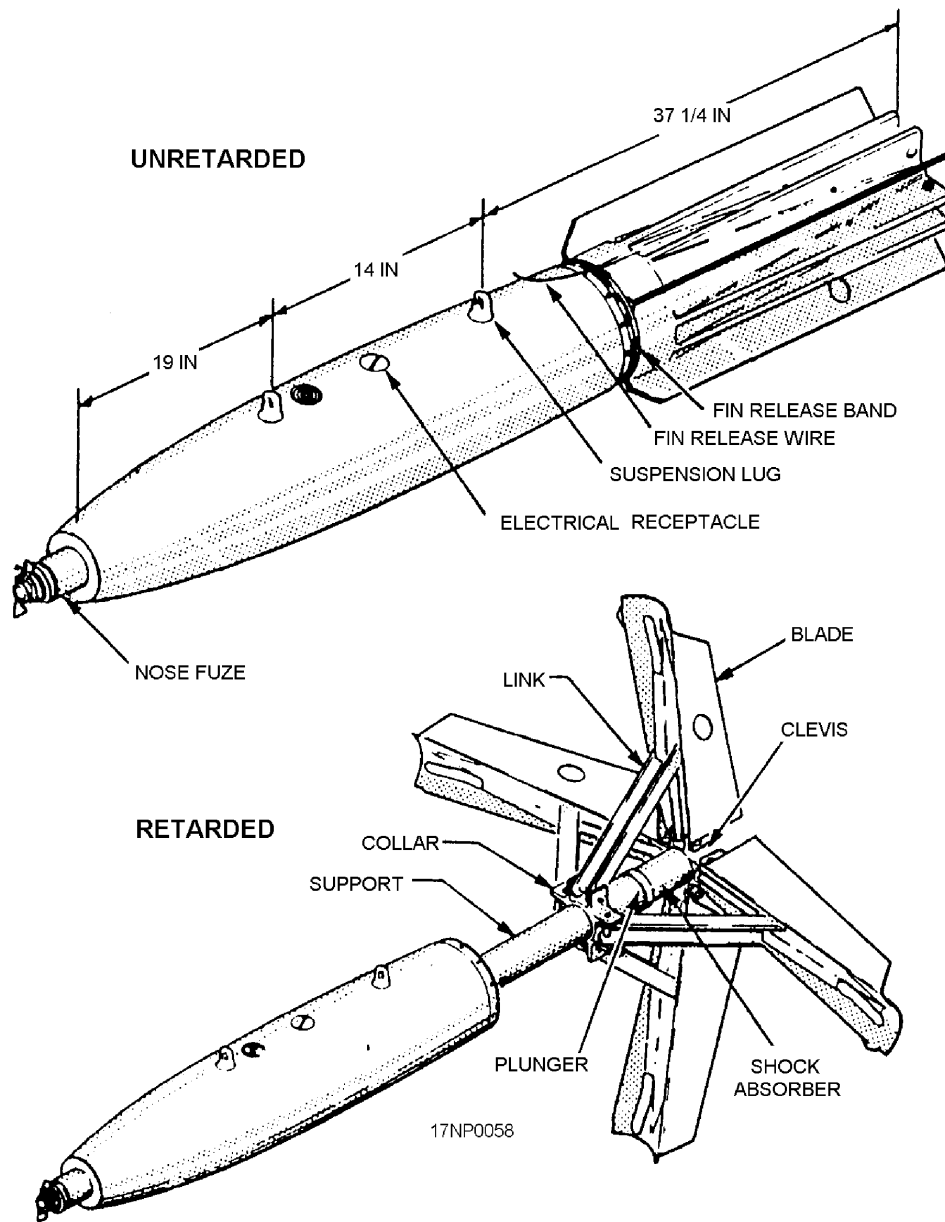

Figure 1-21.—Mk 15 fin with Mk 82 bomb body.
**MK 15 AND MODS SNAKEYE FIN ASSEMBLY.**—The Mk 15 bomb fin assembly (fig. 1-21) is a retarding fin. It is used with the 500-pound LDGP, Mk 82 bombs. The fin assembly presents a low-drag configuration when dropped in the unretarded position and a high-drag configuration when in the retarded position.